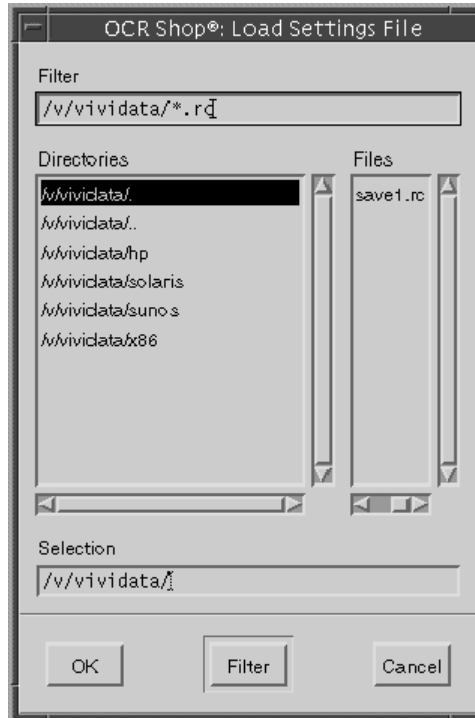

Figure 5-2 Load Settings File
1. Choose Load Settings... from the File Menu. The Load Settings window will appear. See Figure 5-2